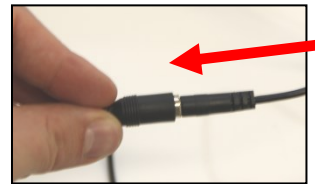

Fig. 3: Connection of power supply A to connector of cable C
4. Attach power supply to cable C (fig.3)